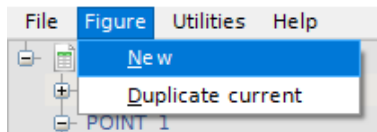

Figure 6.40: Create a new figure window
- Create a new figure window via the menu (Figure 6.40);